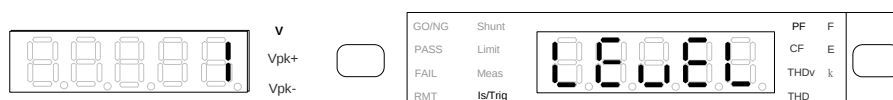

Figure 4-38 Setting LEVEL and Current
2. In the special measurement display a blinking pattern will appear. Use **↑**, **↓** to select Level and press **Trig/Enter** to save the setting and go to trigger Level (ampere) selection display as shown in Figure 4-38.